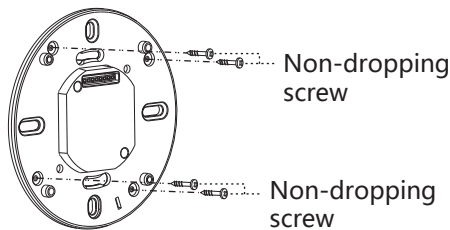

FIG.18
- Insert 4pcs non-dropping screws to the corresponding screw holes on detector's fixing plate, and those 4pcs screws will not drop off to provide convenience to the subsequent installations (See FIG.18).